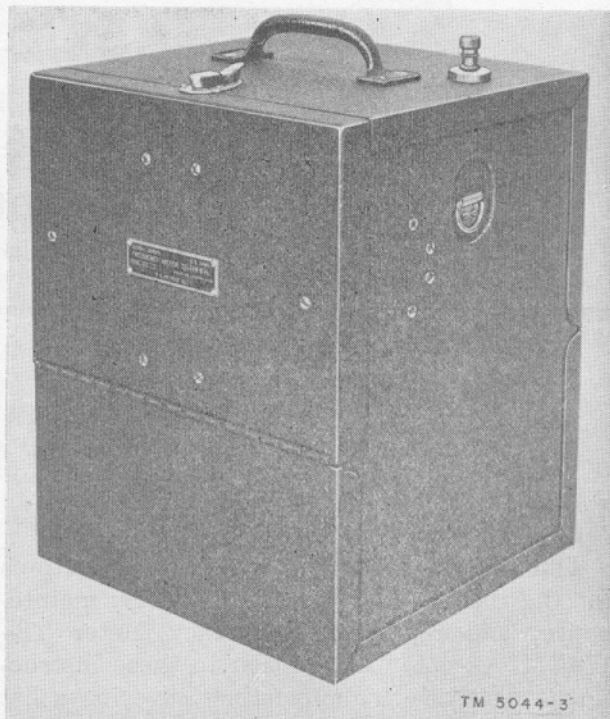

Figure 2. Frequency Meter TS-174B/U, cover closed.
b. The equipment is mounted in a black wrinkle-finished aluminum-alloy cabinet (fig. 2). The upper and largest compartment of the cabinet contains the frequency meter chassis and the spare parts. The next smaller compartment, at the bottom rear, contains the batteries. The smallest compartment, at the bottom front, provides space to store a headset. The batteries and the headset are required for the operation of the equipment but are not supplied with it. A carrying handle and one snap latch are mounted on the top surface of the cabinet. Two small rings to which Strap ST-19-A can be hooked are mounted at the sides of the cabinet.